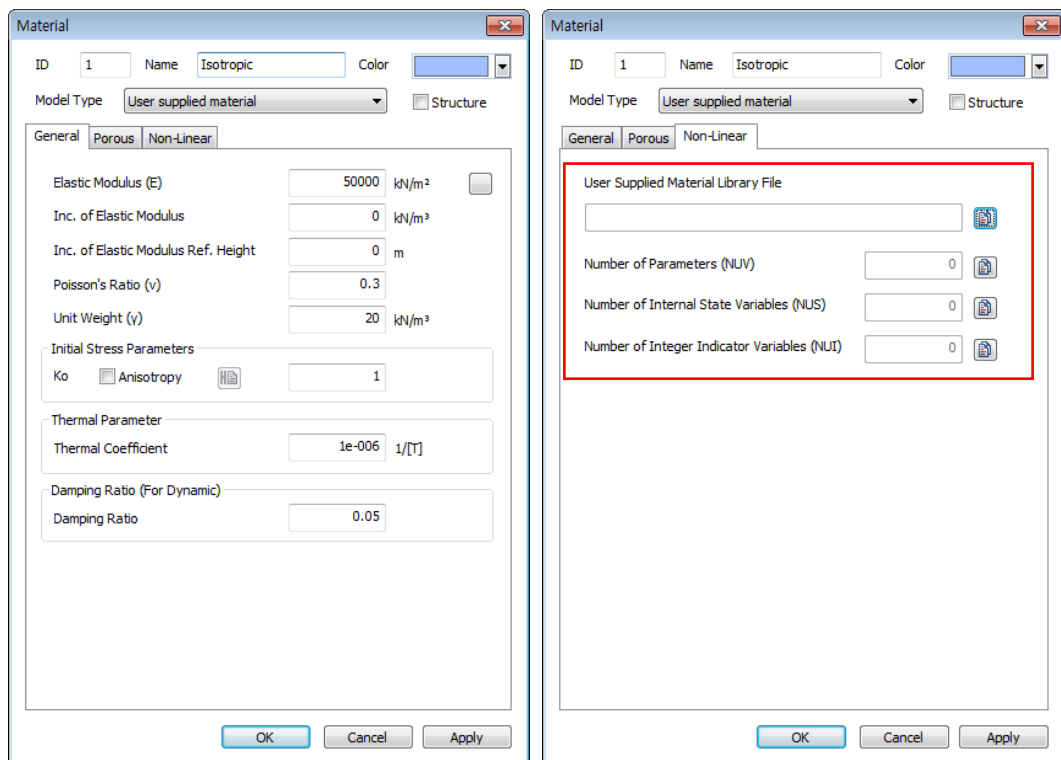

Figure 8. Ground Material input window
The Add/Modify Ground Material dialogue box, as shown in Figure 8, contains constitutive models in the GTS NX Solver. By selecting the Isotropic constitutive model as “**User supplied material**”, the “**Non-Linear Parameters**” subsequently are enabled: Number of Parameters (NUV), Number of Internal State Variables (NUS), and Number of Indicator Variables (NUI). This section provides descriptions about the parameters and required procedures.
By clicking on , as shown in Figure 8, users can select the DLL file generated from the above steps.
**NUV** indicates the number of material parameters that are passed on to the user subroutine as **USRVAL**. By clicking on the adjacent icon , as shown in Figure 8, the values of the material parameters can be viewed or changed. Generally material coefficients defining the Constitutive model, for instance, if the Mohr-Coulomb model is used, then the coefficients such as Cohesion and Friction angle should be included in the **USRVAL**.
If  is clicked, as shown in Figure 8, then the parameters can be entered by following the procedure outlined below:
If  selected, as shown in Figure 8, then the initial internal state variables can be entered by following the procedure outlined below:
Internal Integer variable(**NUI**) are used for indicator values such as the plasticity status. Unlike the **NUV**, **NUI** can also be modified in the FORTRAN routine. If  is selected, as shown in Figure 8, then the initial values of the integer indicator variables can be entered by following the procedure outlined below: